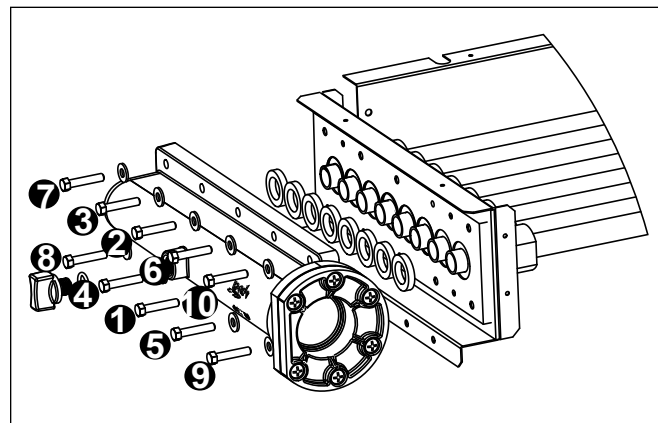

Figure 11. Header Bolt Tightening Sequence
16. Use a torque wrench to tighten the bolts on each header to four (4) foot-pounds. The bolts must be tightened in the sequence indicated in Figure 11.